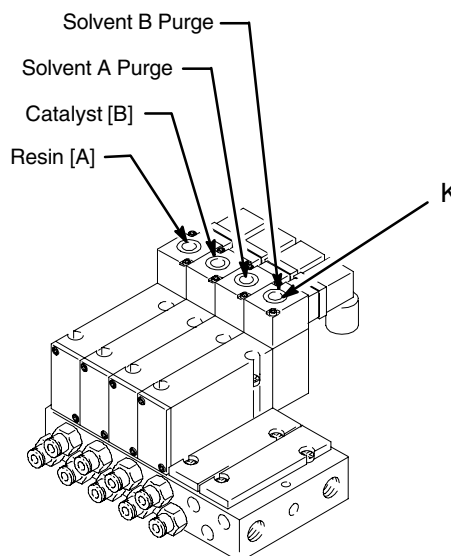

Fig. 10.3
If there is an electrical failure, push the solenoid manual button (K) on the Solvent B Purge valve while triggering the gun to reset the system. See Fig. 10.3.